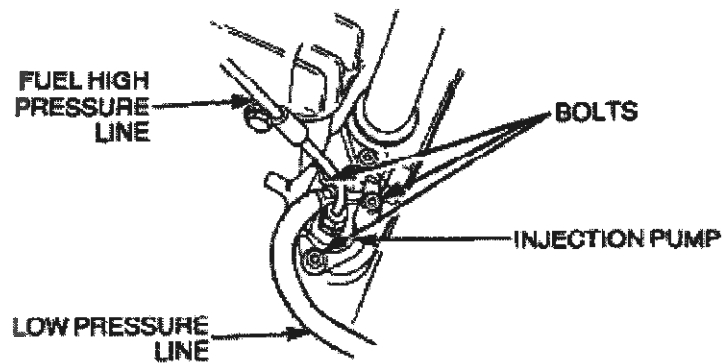

Figure 9 Fuel Injection Pump - Removal
- Remove the three Allen head bolts securing the fuel pump to the engine (Figure 9).